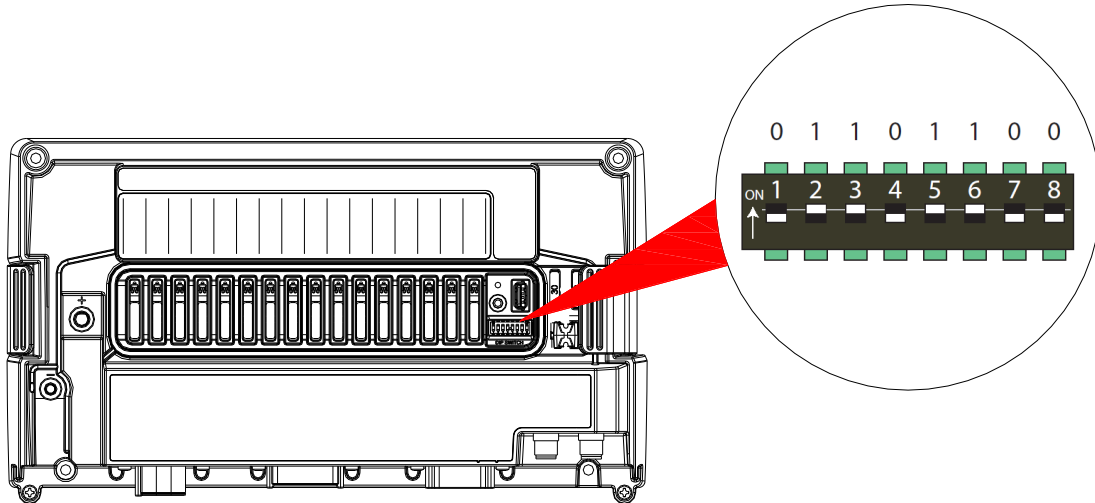

Figure 12. Setting Dipswitch
- Using a small screwdriver carefully set the dipswitch on the Control 1. The dipswitch number must be unique for all modules on the CZone network and must match the dipswitch setting in the configuration to function correctly. The example in Figure 12 shows a dipswitch number of 01101100 where 0 = Off and 1 = On